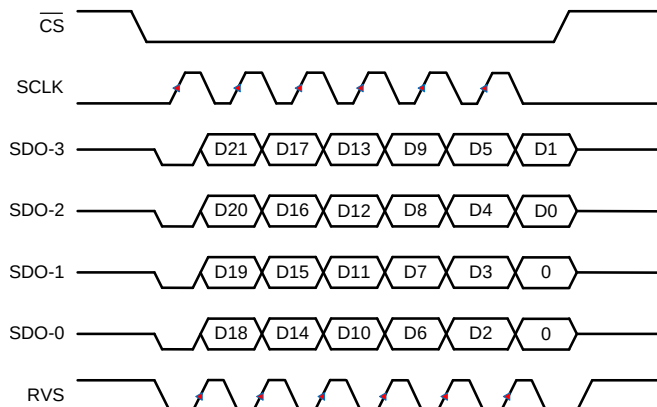

**Figure 81. SRC-EXT-QS: SRC, SCLK, Quad SDO, SDR**
| SRC-EXT-QS | SCLK (1)       | Quad      | SDR              |                                      | 0Fh      | 5                                  | <a href="#">Figure 81</a> |